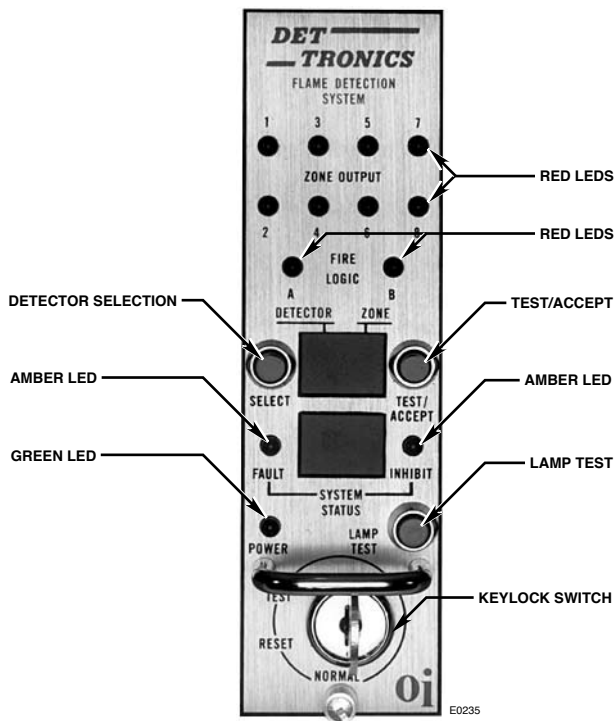

Figure 2—Front Panel of R7404
checked for operation by pressing the LAMP TEST button located directly opposite the POWER light as illustrated in Figure 2. It is not necessary for the controller to be in the TEST mode when this check is performed.
The reset function is incorporated in a rotary keylock switch, which has three positions: (1) NORMAL, (2) RESET and (3) TEST. The switch sequence is such that a return to NORMAL from the TEST position can be achieved only by passing through the RESET mode (Figure 2).